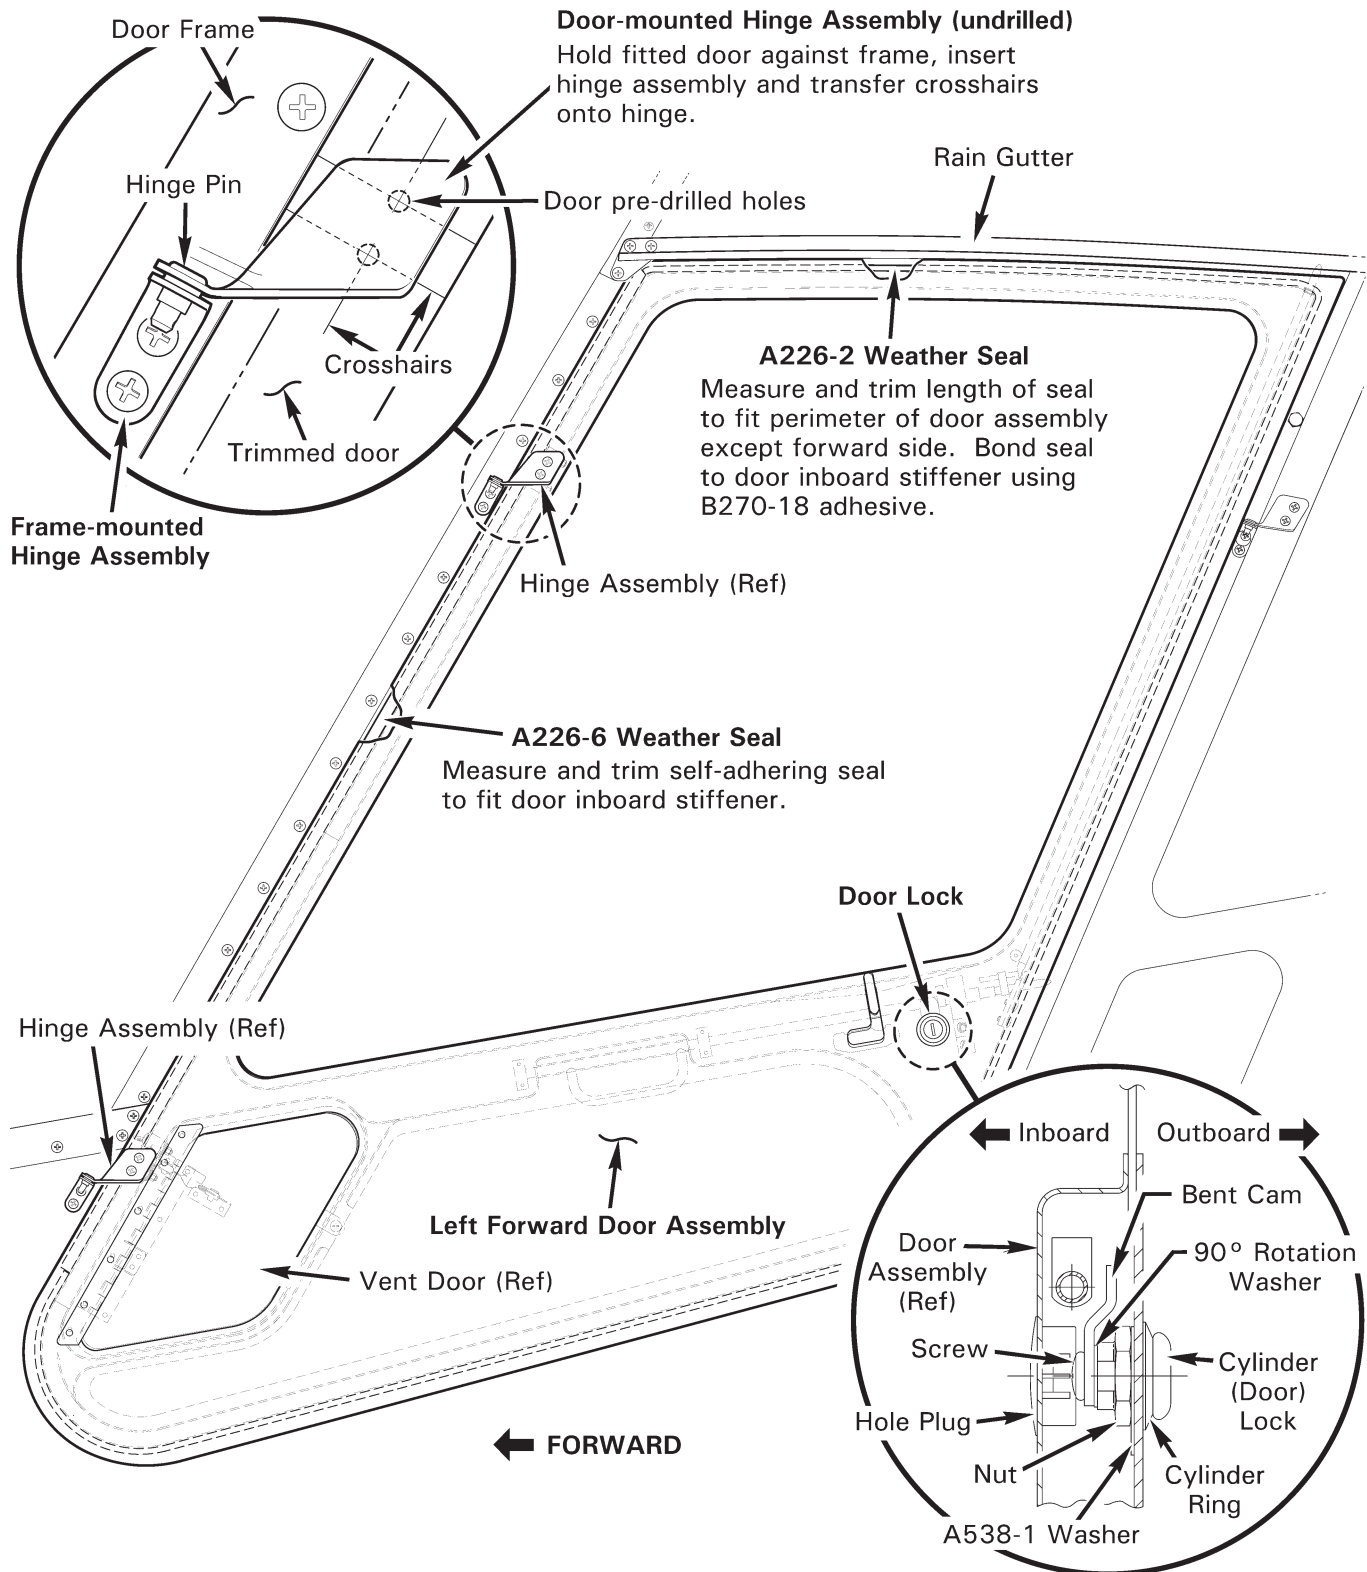

FIGURE 52-1 DOOR ASSEMBLY
1. Refer to Figures 52-1 and 52-2. To disconnect door from gas spring mechanism:
1. Refer to Figures 52-1 and 52-2. Align and insert door hinge pins in door frame hinge assemblies.
1. Refer to Figure 52-1. As required, lay masking tape on surfaces of door frame, new door hinges, and new door, to mark with soft pencil.
Refer to R66 Illustrated Parts Catalog (IPC) Figure 52-1.
2. Refer to Figure 52-1. Remove hole plug opposite key slot on door interior.
Refer to R66 Illustrated Parts Catalog (IPC) Figures 52-1 and 52-7.
2. Refer to Figure 52-1. Measure and trim continuous length of A226-2 seal to fit perimeter of door except forward side, as shown. Neatly bond seal to stiffener using B270-18 adhesive. Wipe away excess adhesive prior to curing.